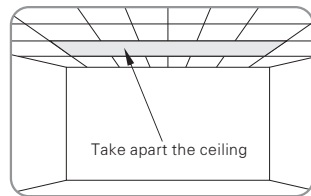
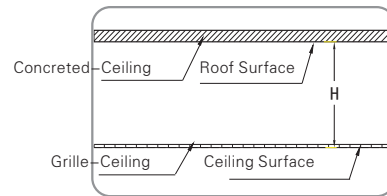

Figure 1
Figure 2
1. Choose a position according to the required space, and then take apart the ceiling (figure 1). Please measure the distance H between roof and ceiling surface correctly (figure 2)